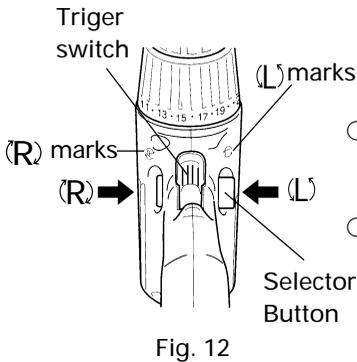

Fig. 12
The bit rotates clockwise (viewed from the rear side) by pushing the R-side of the selector button. The L-side of the selector button is pushed to turn the bit counterclockwise. (See Fig. 12). (The (L) and (R) marks are provided on the body.)